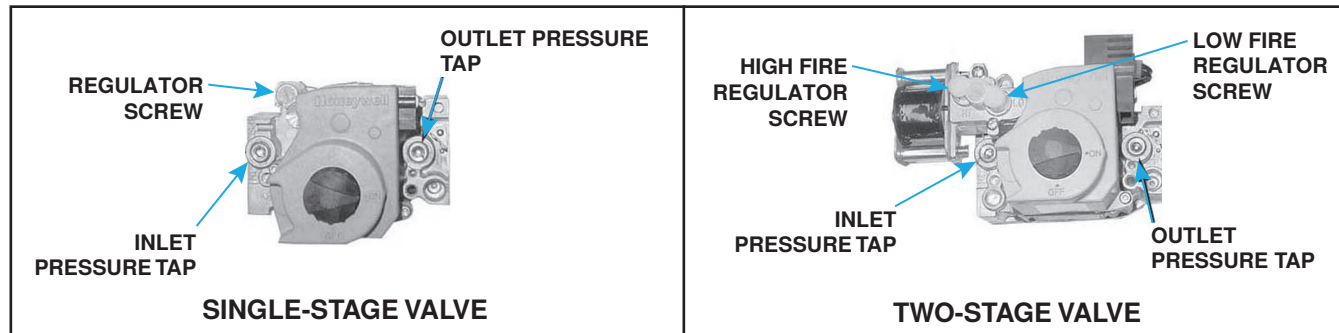

Figure 24. Combination Gas Valves
1. With manual valve (on combination valve) positioned to prevent flow to main burners, connect manometer to outlet pressure tap (see Figure 24) on valve.
3. Normally, adjustments to factory-preset regulator should not be necessary. If adjustment is necessary, set pressure to correct settings by turning regulator screw (see Figure 24) IN (clockwise) to increase pressure or OUT (counterclockwise) to decrease pressure. Consult valve manufacturer's literature provided with furnace for more detailed information.
2. Connect manometer to inlet pressure tap on combination gas valve (see Figure 24).